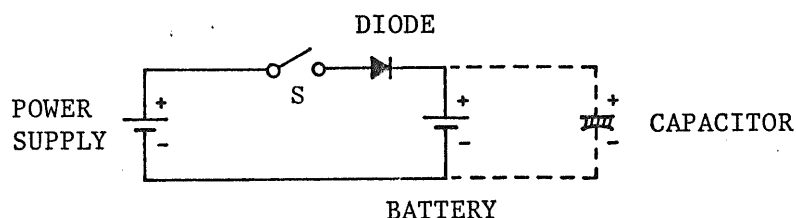

Figure 4-14
2. If the output voltage of power supply is lower than the battery voltage or if the power switch is off, a current of several hundreds milliamperes flows from the battery into the power supply. If this current is not allowable, connect a diode in series with the battery as shown in Figure 4-14.